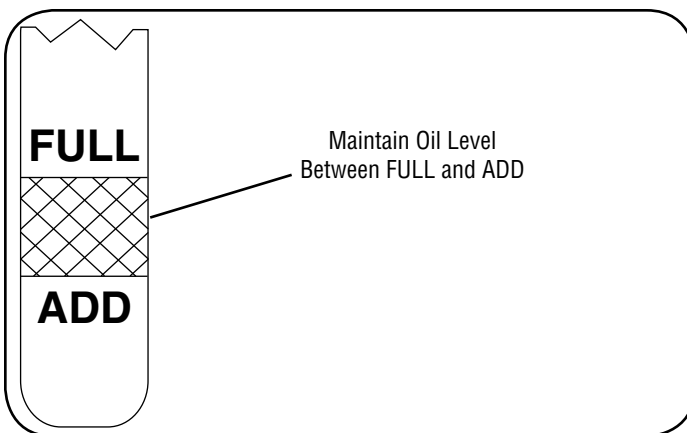

Figure 11
4. Unscrew and remove oil fill cap from oil filler tube. Note oil level. If oil reading on dipstick is below "ADD" mark, slowly add oil to reach "FULL" level. See Figure 11.